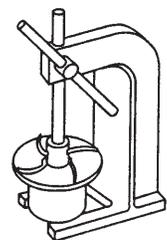

Figure 6
- To remove the bushing, place the impeller assembly (Items 2 and 3) in an arbor press. Insert a 1" diameter plastic or wooden shaft through the impeller and press bushing out. Refer to Figure 6.